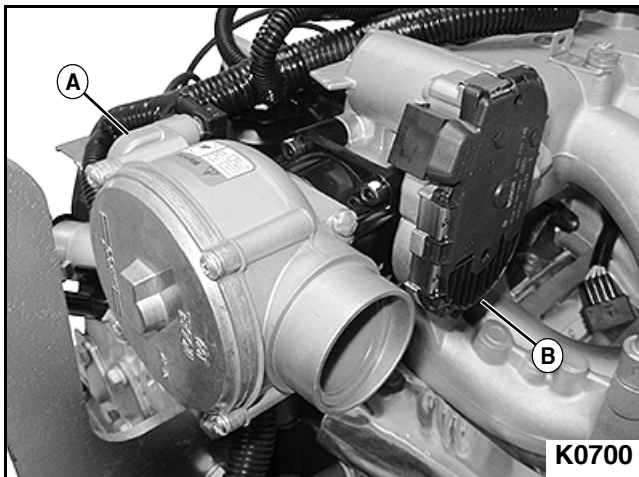

Figure 3-36
3. Separate the air-fuel mixer valve (A) from the throttle body (B) by using a rotational motion as pulling apart. Use caution not to damage O-rings. **See Figure 3-36.**